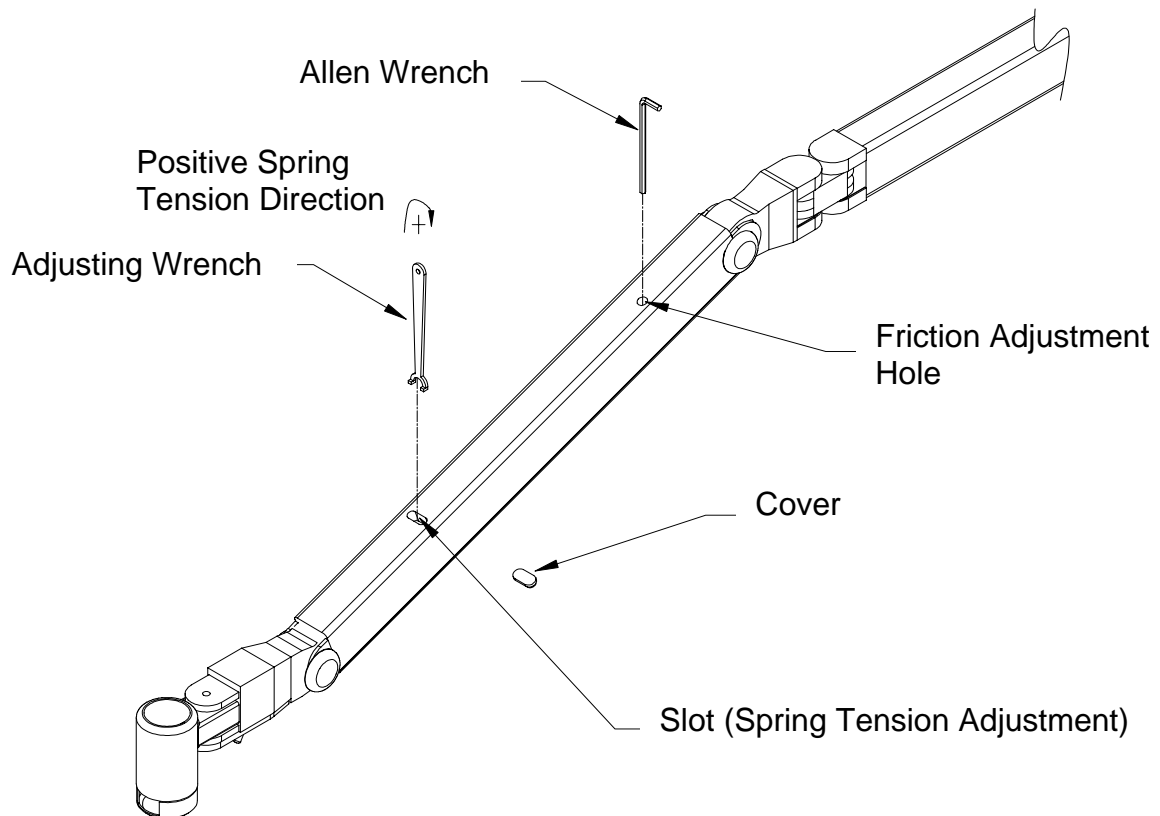

FIGURE 37: Arm Adjustment
- Remove the cover over the spring tension adjustment slot as shown in figure 37.
- Using the adjustment wrench provided, turn the nut in the direction of the arrow as shown in figure 37 to increase the arm tension, or turn the nut in the opposite direction to decrease the tension until the required adjustment is reached.
Moving joints/Adjustments	Check to make sure all moving joints function properly along the mounting system and head and arm system. If the articulating arm does not position properly (drifts from original position) refer to arm adjustment in figure 37, page 54. If this does not solve the problem contact customer service as the unit may require factory repair.